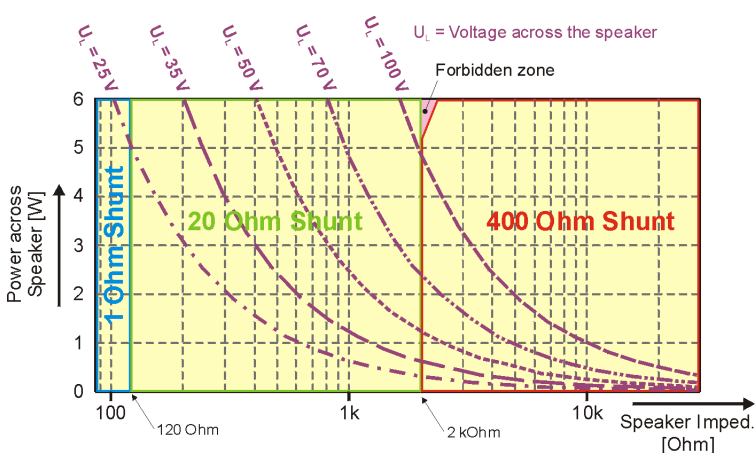

Figure 2b Shunt resistor selector guide (excerpt)
2. Follow this line to the point where it intersects the power across the speaker (vertical Y-axis); if this point is located in the yellow section, swap to *Figure 2b*.
Solution: Look for the point in *Figure 2b*, where the curve labeled " $U_L = 100 \text{ V}$ " intersects the horizontal 4 W line